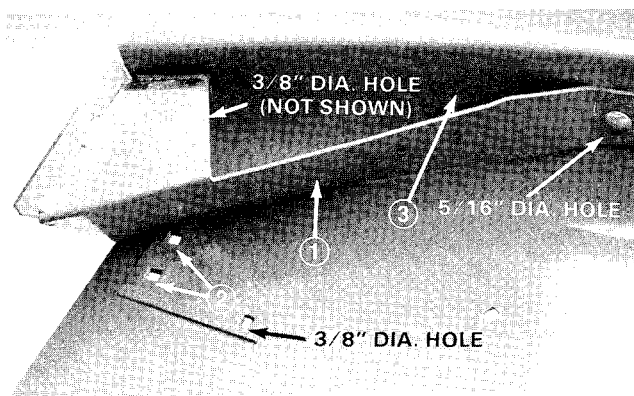

Figure 4
3. Position front baffle on underside of cutting unit, aligning (2) outside mounting holes with front deflector mounting holes (Fig. 4).
4. Using baffle as a template, mark and drill (2) 3/8" dia. holes and a 5/16" dia. hole in deck (Fig. 4).
5. Using appropriate mounting holes and fasteners, secure baffle to front wall of deck with a 1/4-20x5/8" lg. carriage bolt and nut, and a 5/16-18x5/8" lg. carriage bolt and nut. Leave the remaining mounting holes (3) open at this time.